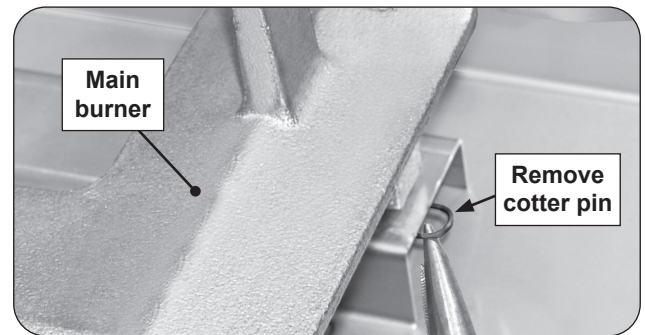

Fig. 48-2 Remove cotter pin
2. Locate and remove the cotter pin from the left or right rear burner anchoring peg by pulling it straight out of the cotter pin hole using fingers or needle-nose pliers. See Fig. 48-2.